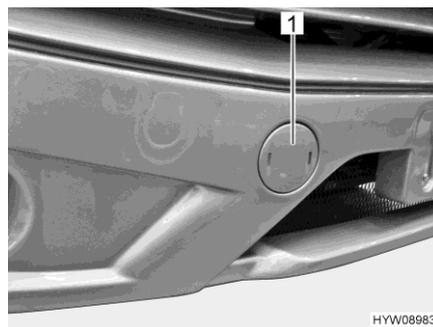

Fig. 28 Cover (mount of the towing eye)
- Lever up the cover (Fig. 28,1) using a screwdriver.